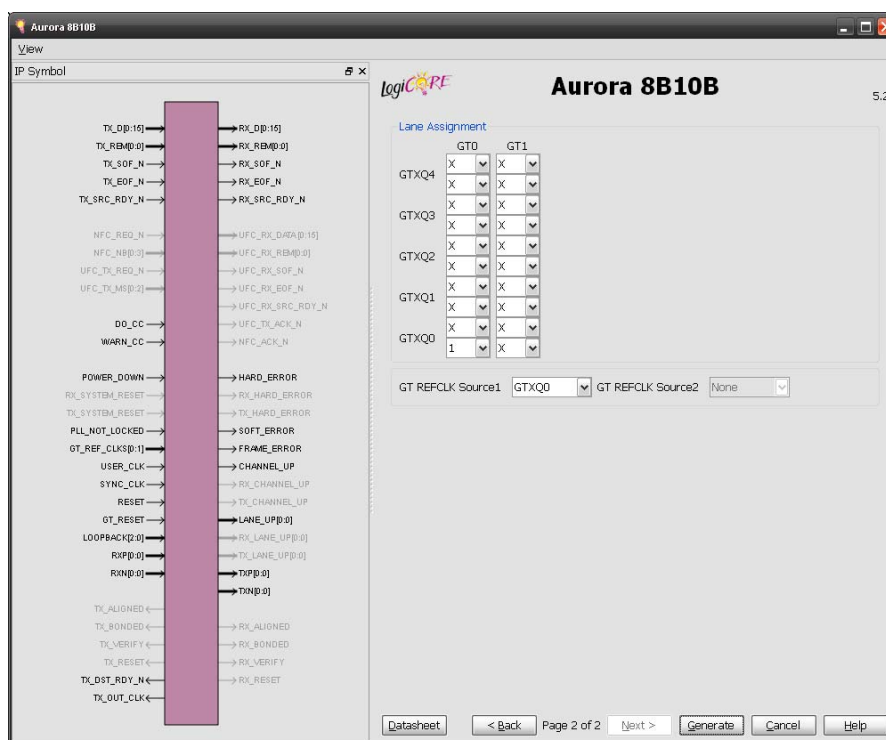

Figure 3-4: Second GUI Page for Virtex-6 FPGA GTX Transceivers
- Figure 3-4, page 29 for Virtex-6 FPGA GTX transceivers